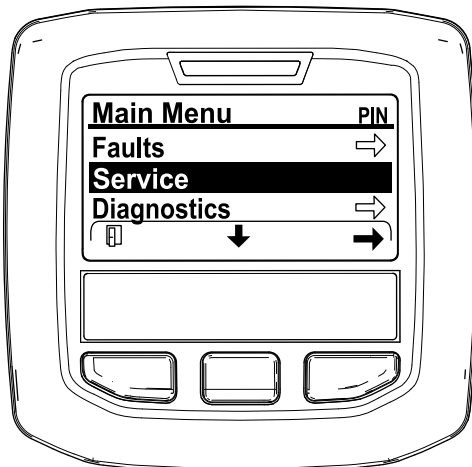

Figure 24
2. Navigate to the MAIN MENU, press the center button to scroll down to the SERVICE MENU, and press the right button to select the SERVICE option (Figure 24).